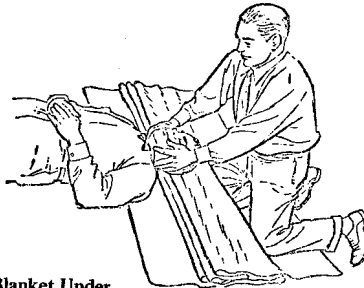

FIGURE 34. Placing the Blanket Under the Victim.
- (1) Step 1—Pleat a standard army blanket in folds about 1' long and place on the floor just above the victim's head so that the pleated blanket will "feed out" from the bottom.
- (2) Step 2—Fold back the top pleat so that the man at the head and the two men at the shoulders can kneel on the fold.
- (3) Step 3—No. 1 takes the position on one or both of his knees and grasps the victim's head in the standard manner for applying traction. (See Figure 34.)